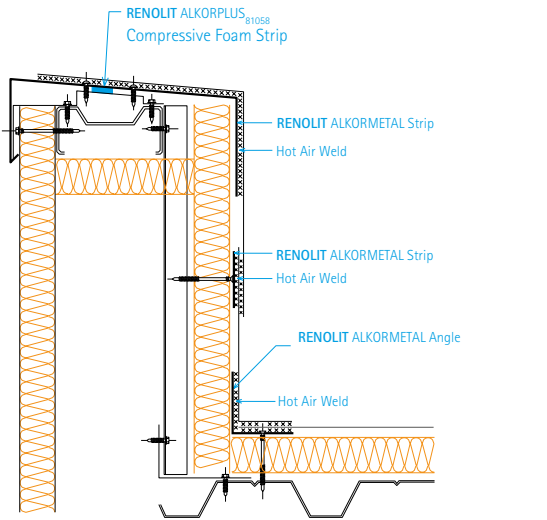

fig. 4: **RENOLIT ALKORPLUS 81058** compressive foam strip
• With a **RENOLIT ALKORPLUS 81058** compressive foam strip underneath the **RENOLIT ALKORPLAN** metal sheet trim, the parapet top is sealed against wind pressure. (See fig. 4) The membrane is protected from an abrasive upstand surface by a **RENOLIT ALKORPLUS 81005** protective layer (min. 300 g/m²). Where the parapet height exceeds 500 mm, intermediate support with a continuous **RENOLIT ALKORPLAN** metal sheet (50 mm wide) is required.